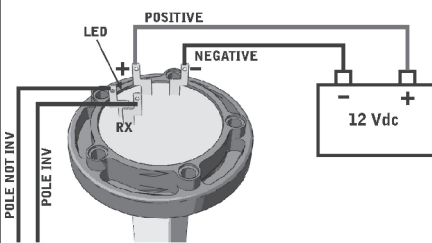

Fig. 10
- RS422/RS485 (Fig. 10), supply: 5 ÷ 18Vdc